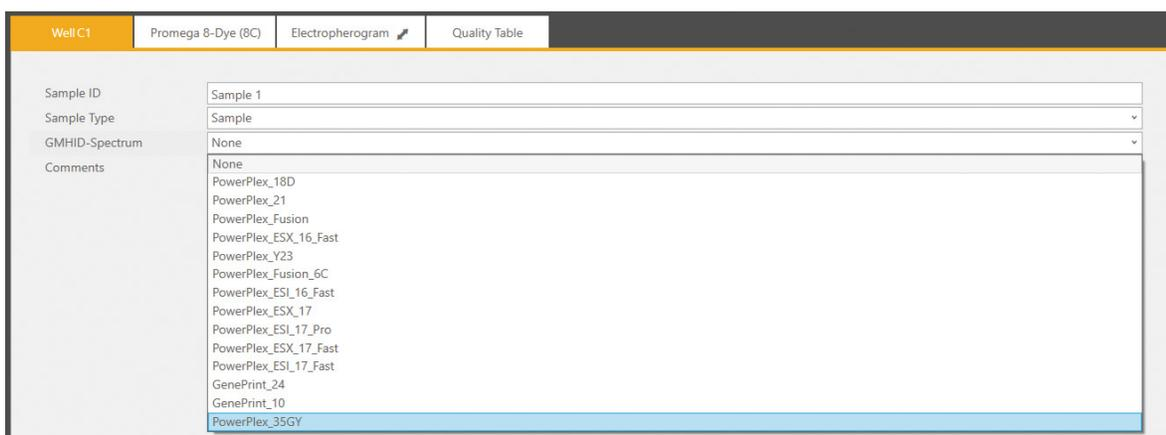

Figure 12. Drop-down options for GeneMarker®HID Software for Spectrum CE Systems run wizard templates.
6. **Optional:** Select PowerPlex_35GY in the GMHID-Spectrum drop-down menu (Figure 12).